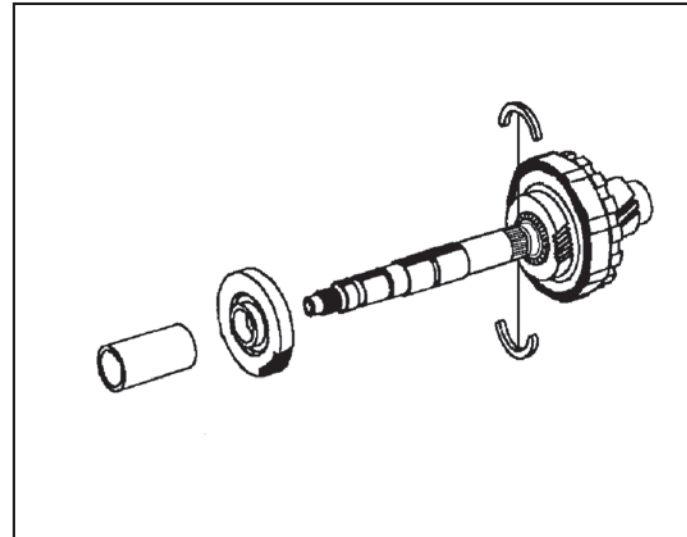

Figure 137
8. Install the 3rd driven split washers (See Figure 137).
9. Install the 3rd driven gear (See Figure 137).
10. Install the 2nd/3rd driven gear spacer (See Figure 137).